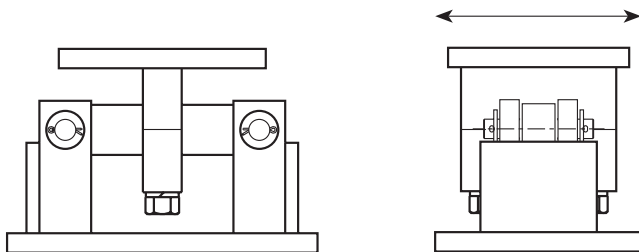

Figure 2-20
- 2) A chair clamps around the load cell's center. This arrangement allows the cell freedom to slide laterally a short distance on the pins, as indicated in Figure 2-20.